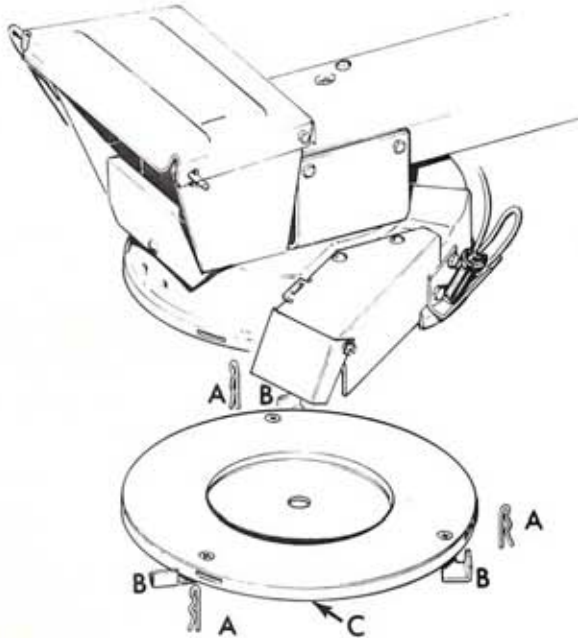

FIG. 18
7. Refer to Fig. 18. Install 3 retainer springs (A) (furnished in plastic bag) into holes of latches (B) to secure bottom (C) in place.
2. Refer to Fig. 18. Insert the 3 retainer springs (A), shipped in bag of parts, into holes in end of latches (B) to lock bottom cover in place.
5. Refer to Fig. 18. Remove 3 retainer springs (A) from latches (B). Pull latches (B) out and drop bottom (C) from engine pad. Look up into blade area for obstructions. Remove obstruction and replace bottom (C) in engine pad. Lock latches in place and secure with retainer springs (A).